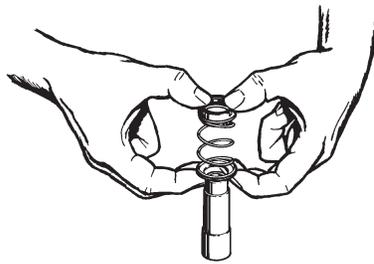

Figure 4-13
d. Holding the element assembly between the thumb and index finger of both hands, refer to Figure 4-13, slide the assembly over the sleeve until the spring holder rests against the shoulder of the sleeve.